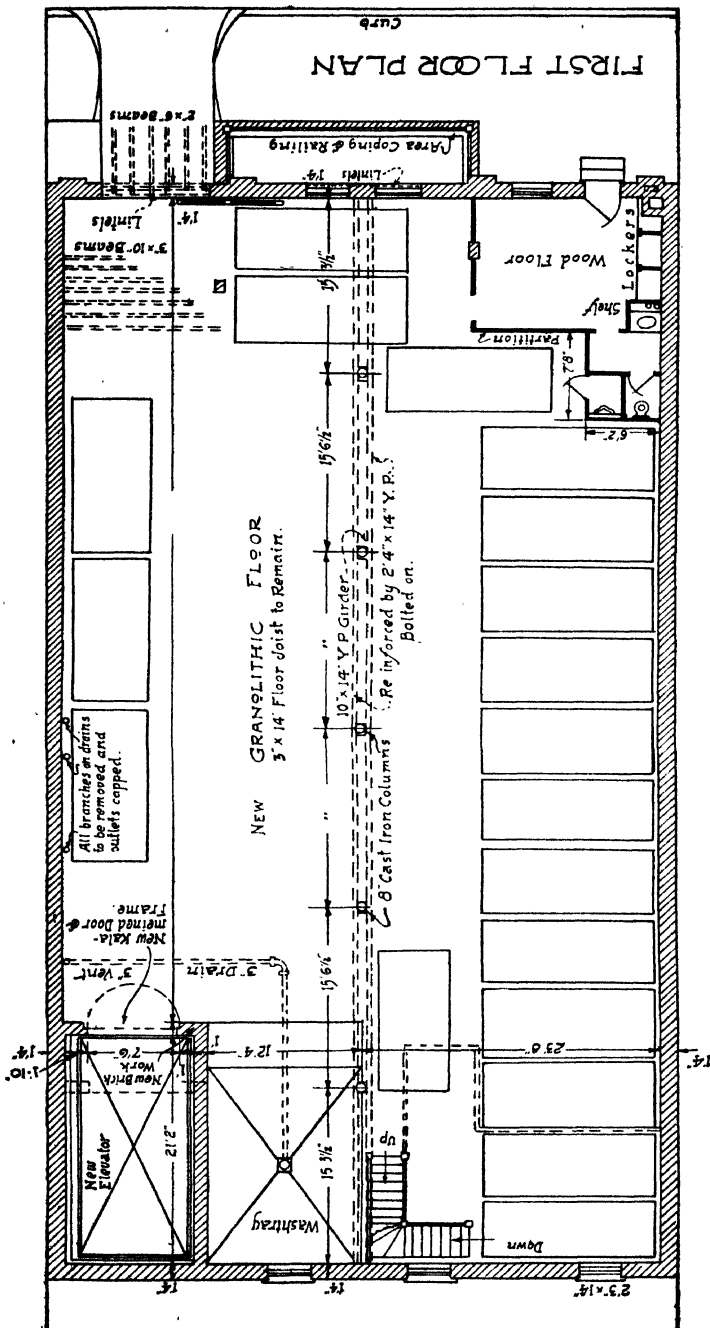

Fig. 14. Arrangement of Three-Story Garage, in Which Two Elevators, Side by Side, Are Used
*Layout 10.* A three-floor garage with two elevators is shown in Fig. 14. This might be either a basement and two-story building or a three-story building. The layout includes a repair shop and a paint shop, located at the rear of the top floor for the best light and occupying the full width of the building. On the ground floor is a salesroom, accessory sales space, stock room, office, a private room, and toilets for men and women. In the car-storage space are two wash racks, located directly in front of the two side entrances. The lack of wash racks above the ground floor would appear to be a big disadvantage here, for the 54 cars on the second and the 33 cars on